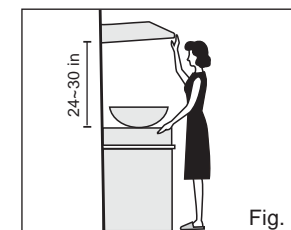

Fig. 2
2. Installation Heights (Fig.2)